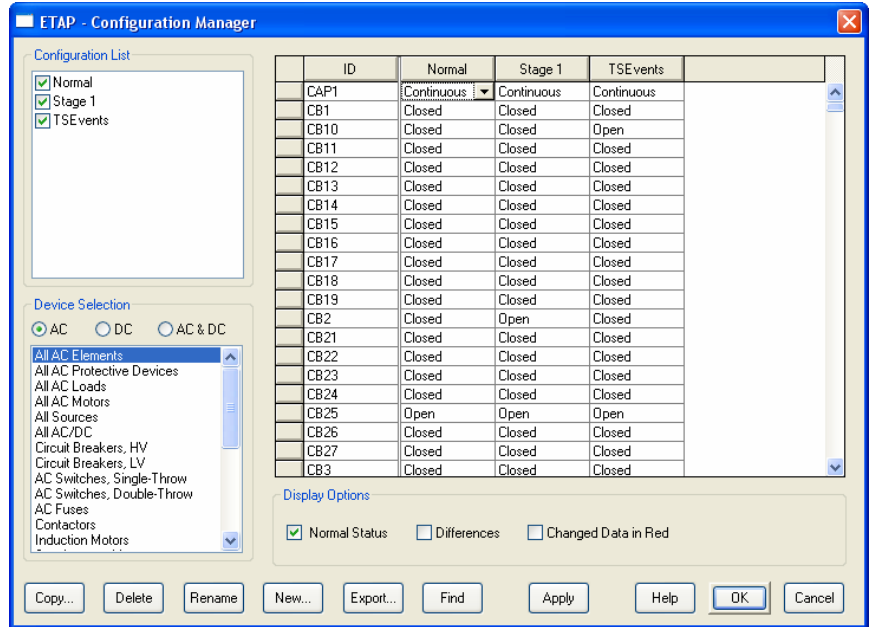

Fig. 4
- (c) The ETAP Configuration Manager Dialog will be displayed. Click “New...” button. See Fig. 4.
- (e) Click “OK” button on the ETAP Configuration Manager Dialog box. See Fig. 4.